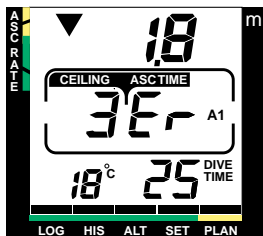

Fig.3.17 DECOMPRESSION DIVE, ABOVE CEILING
- the ceiling depth is exceeded. A downward pointing arrow and a blinking error warning Er will appear (Fig.3.17). LUX S model gives also an audible alarm: continuous beep. You should immediately descend to or below the ceiling. The dive computer will otherwise enter a permanent error mode in three minutes, indicated by a non-blinking Er.
If you ascend above the ceiling, a downward pointing arrow will appear (Fig 3.17). In addition a blinking error warning Er reminds you that you have only three minutes to correct the situation. You must immediately descend to or below the ceiling.